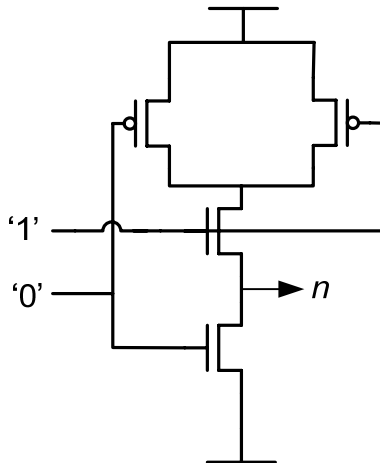

Figure 1 : CMOS NAND gate
2.0 – Consider the static CMOS nand gate shown in Figure 1. Ignoring junction leakage and subthreshold current, determine the voltage of node n .